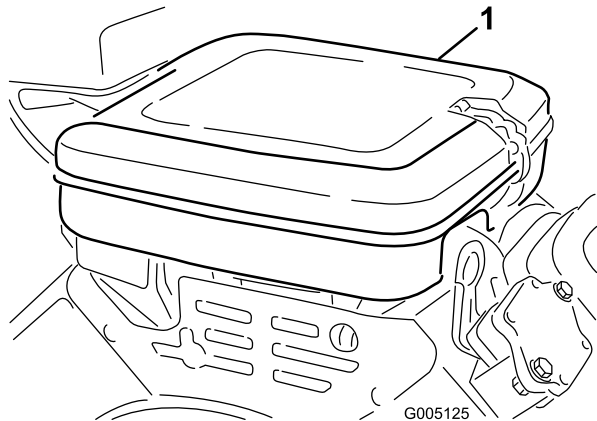

Figure 46
1. Release the locking clips and remove the air cleaner cover (Figure 46). Clean the cover thoroughly.